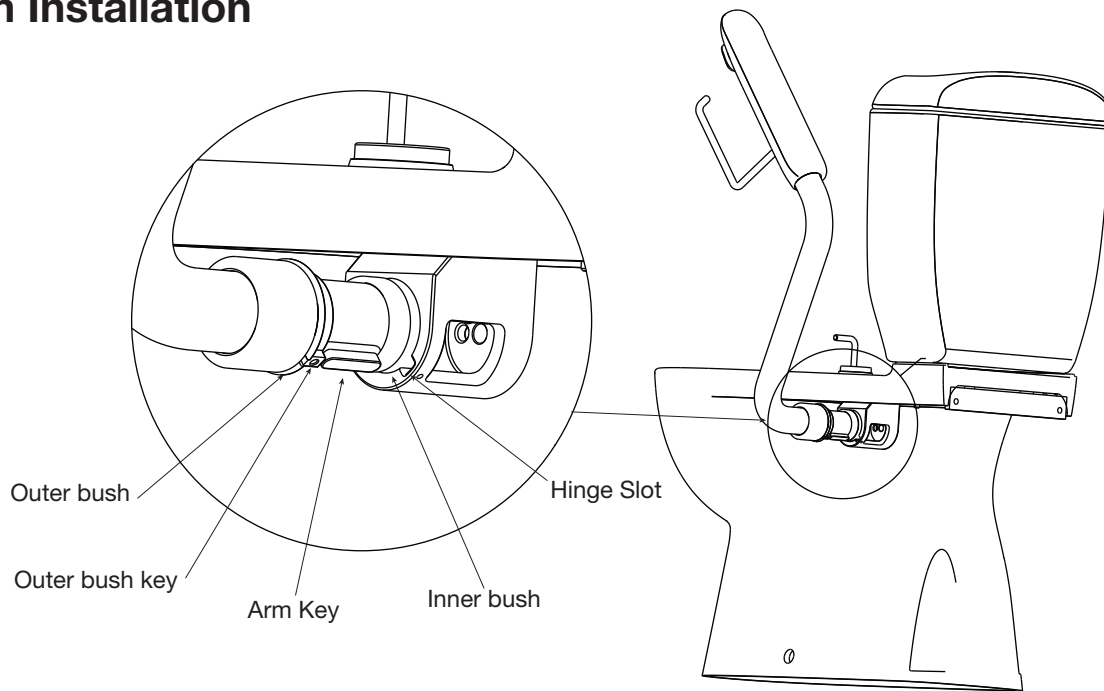

Fig. 11
12. Assemble two (2) bushes per arm as shown in **Fig. 11**. Ensuring that outer bush key lines up with arm key. Assemble arms into bracket by rotating to upright position, aligning key into hinge slot and sliding in.